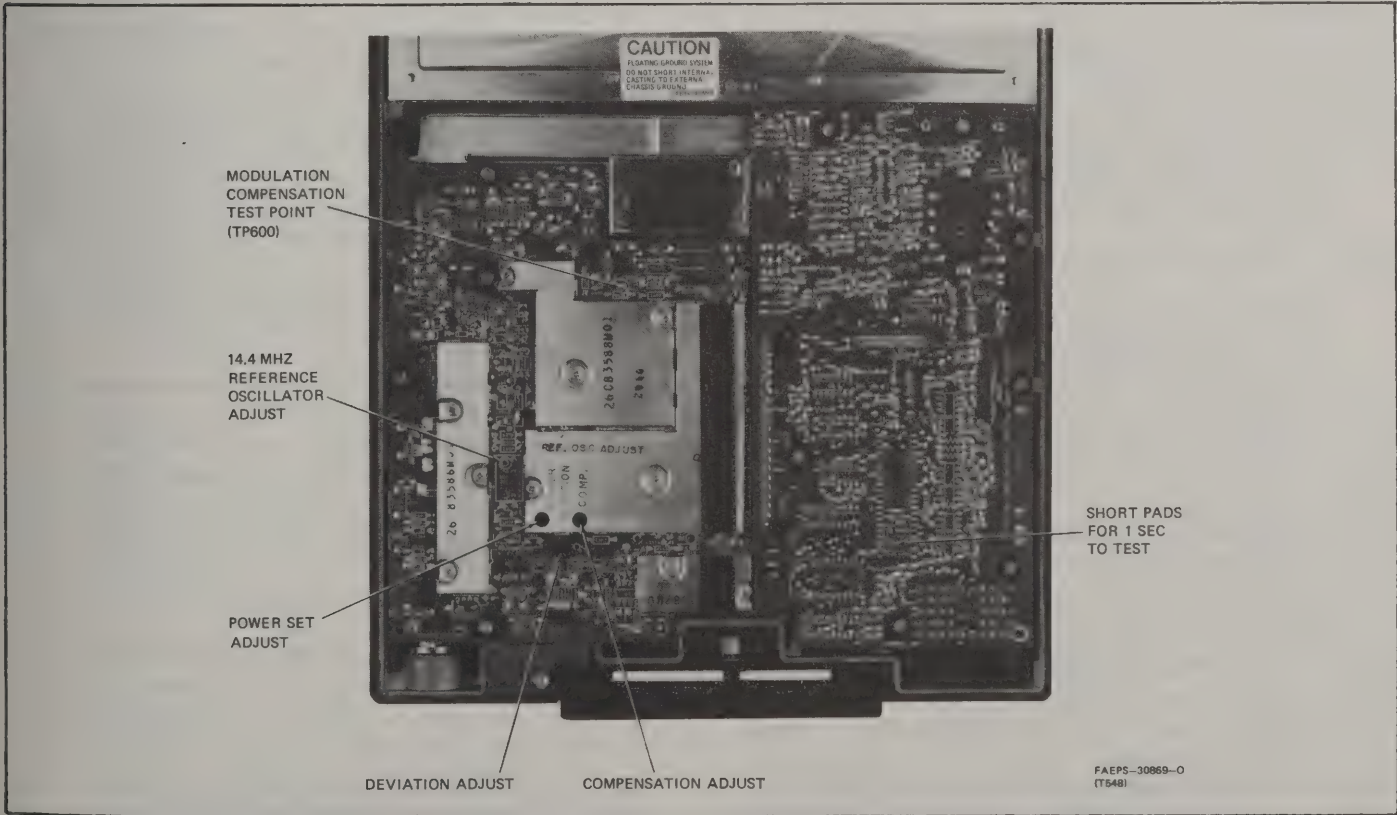

Figure 1. Radio Adjustments Locations
All adjustments can be performed through holes that are directly accessible on the rf board, as shown in Figure 1. Readjustment of the receiver is not recommended since the receiver is preadjusted at the factory to allow a wide passband for all frequencies within the 851 MHz to 870 MHz range.
Step 4. Adjust the reference oscillator warp control U608 (see Figure 1) until proper indication is obtained on the frequency meter.
Step 1. Turn the deviation potentiometer (Figure 1) halfway in a clockwise direction.
Step 3. Connect the center lead of the shielded cable of an ac voltmeter to the modulation compensation test point (Figure 1) and connect the shield to the radio ground (A-). Set the voltmeter to the 1 mV range.
Step 5. Adjust the POWER SET potentiometer (Figure 1) for an output power indication of 38 W. A clockwise adjustment of this potentiometer (as viewed from the top of the radio) increases the output power, whereas a counterclockwise adjustment decreases the output power. If the initial output power is significantly greater than 38 W, it may suddenly drop during the
Step 6. If the output power is less than 15 W, it is possible that the high drive protection circuit of the power control has been activated. Adjust the POWER SET potentiometer (Figure 1) in a counterclockwise direction until the output power drops to approximately 2 W. Rekey the transmitter and adjust the POWER SET potentiometer until an indication of 38 W is obtained.